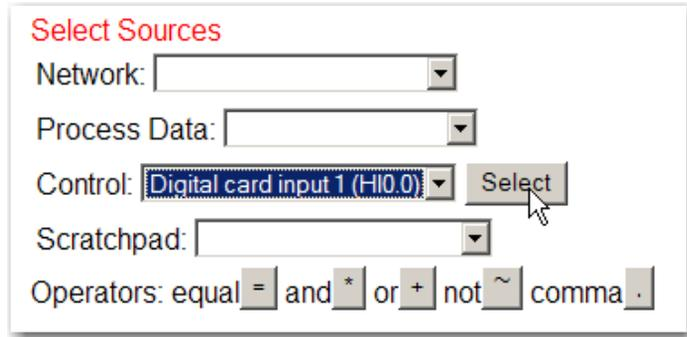

FIG. 268 SELECT SOURCES/SELECTING DIGITAL CARD INPUT 1
- Click on the Digital Card Input you want for this applications. In our example we selected Digital Card Input 1. (See Fig. 268)